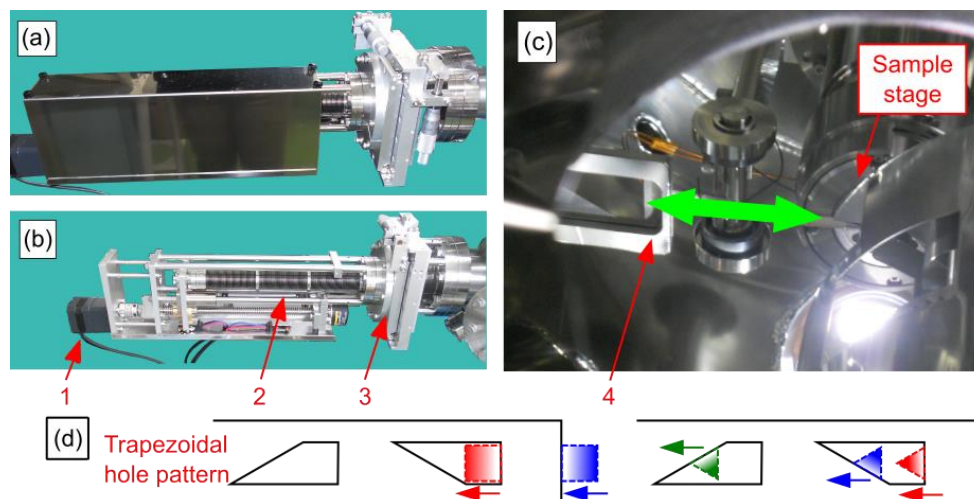

Figure 7:Combinatorial mask positioning unit.
There is a mask-positioning units in the main chamber as shown in Figure 7. It is the “long mask unit” with about 160 mm stroke and trapezoidal hole-patterns those can make composition-spread thin-film pattern like triangular phase diagram. The mask positioning units can be manually controlled by handy console and precisely controlled by computer software (see item 5 in Sec 3.5).